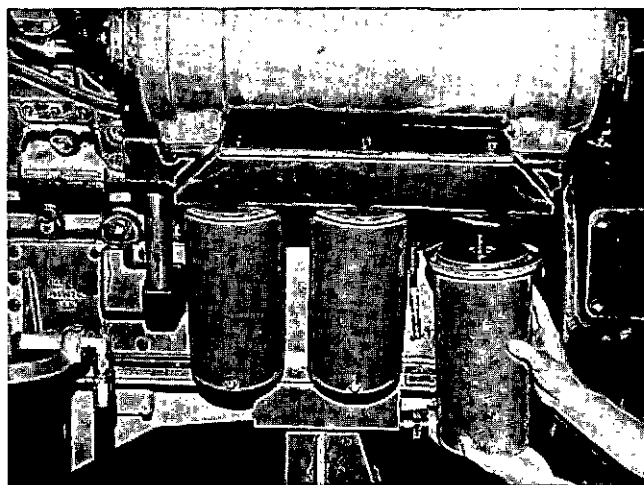

Fig. 0-11, V414202. Removing oil filter case
2. Loosen capscrew at bottom center of each filter case; remove case and lift out element. Fig. 0-11.